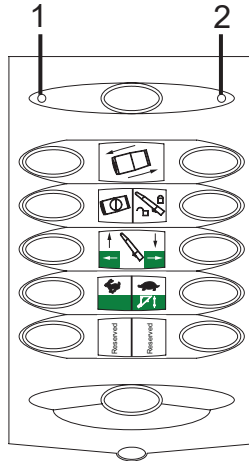

Figure 137
1. The Battery Low (Figure 137, Item 1) and Active (Figure 137, Item 2) LED indicators on the transmitter are used to indicate the status of the transmitter (transmitter for Traditional Controls used for illustrative purposes).